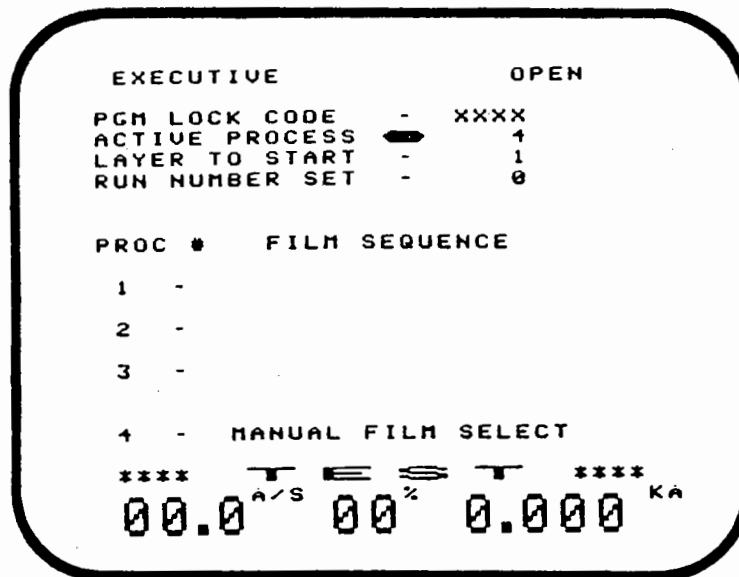

Fig. 2-8 Executive Display Program
5. After programming, go to the Executive display (DSPL 7); enter active process 4 (if it is not already entered), by pressing 4, then E. The display should appear as in Fig. 2-8.